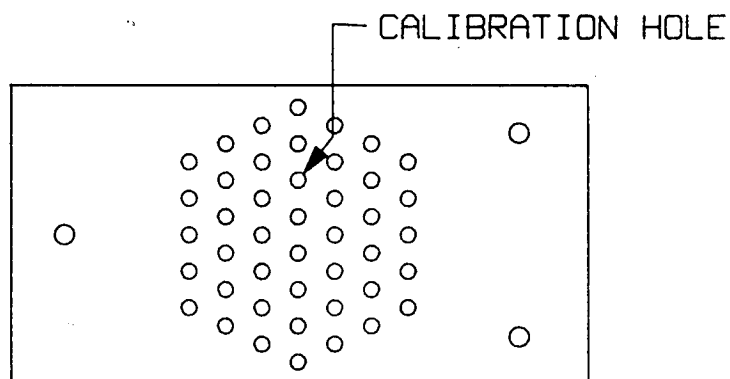

FIGURE 14.4A: MODEL 4153 CALIBRATION HOLE
- b. Referring to Figure 14.4A, find the calibration hole on the 4153 and use the screwdriver to adjust the 4153 until the voltage at the 4150 is directly proportional to the actual humidity. If the actual humidity is 53%, adjust the 4153 for a voltage reading of .53 VDC.